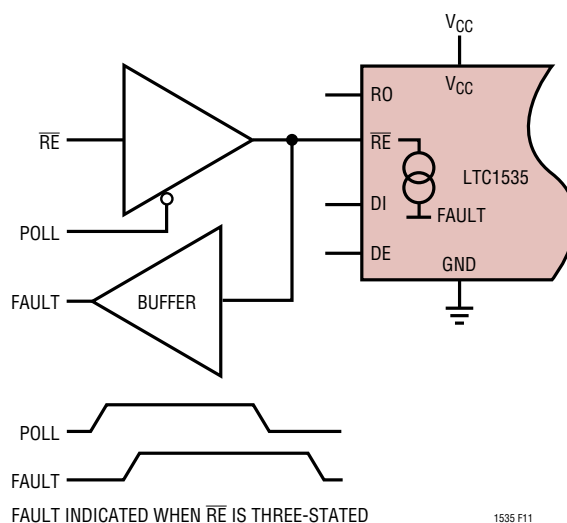

Figure 11. Detecting Fault Conditions
**$\overline{RE}$  (Pin 27):** Receive Data Output Enable TTL Input. A low level enables the receiver. This pin also provides a fault output signal. (See Figure 11.)
The  $\overline{\text{RE}}$  pin has a weak current drive output mode for indicating fault conditions. This fault state can be polled using a bidirectional microcontroller I/O line or by using the circuit in Figure 11, where the control to  $\overline{\text{RE}}$  is three-stated and the fault condition read back from the  $\overline{\text{RE}}$  pin. The weak drive has 100 $\mu\text{A}$  pull-up current to indicate a fault and 50 $\mu\text{A}$  pull-down current for no fault. This allows the  $\overline{\text{RE}}$  pin to be polled without disabling  $\overline{\text{RE}}$  on nonfault conditions.